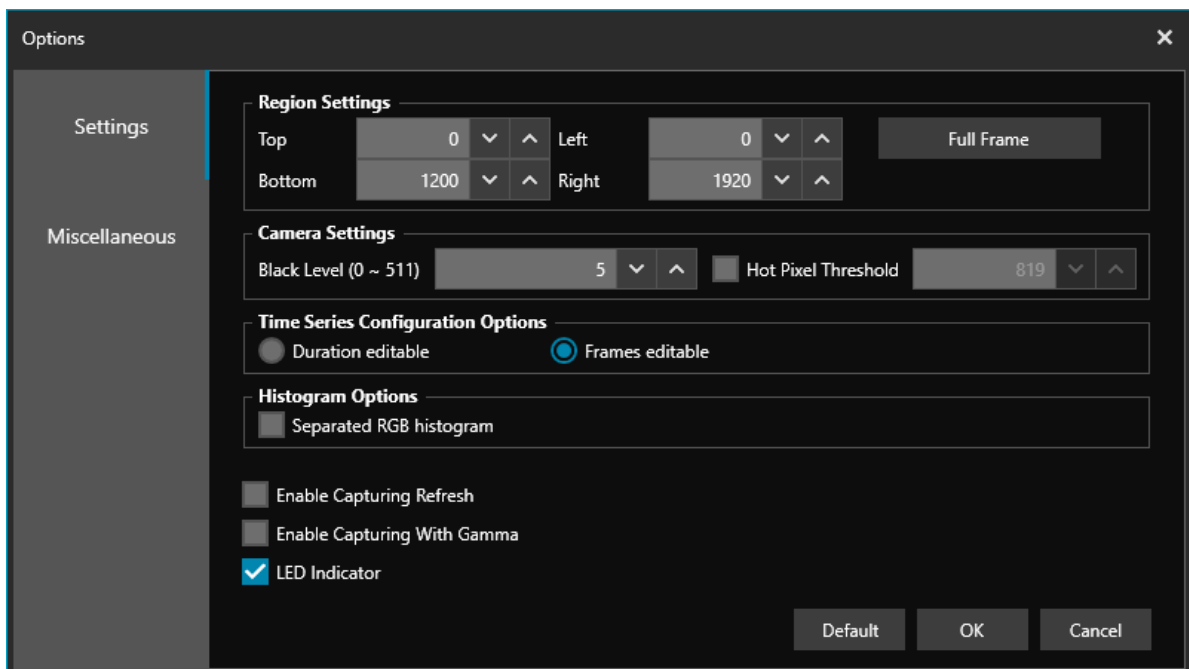

Figure 24 Settings in Options Tab
- **Settings:** Adjust the ThorImageCAM GUI Features and Camera Settings Shown in Figure 24.
You can capture a time series of images by selecting **Timed Series** at which point the following options will appear in the Capture Configuration window below the **Timed Series** field: **Interval (ms)**, **Duration (s)**, and **Frames**. The Timed Series option chosen in the Timed Series Configuration Settings (See Figure 24) will be editable along with the Interval, while the other will be grayed out.